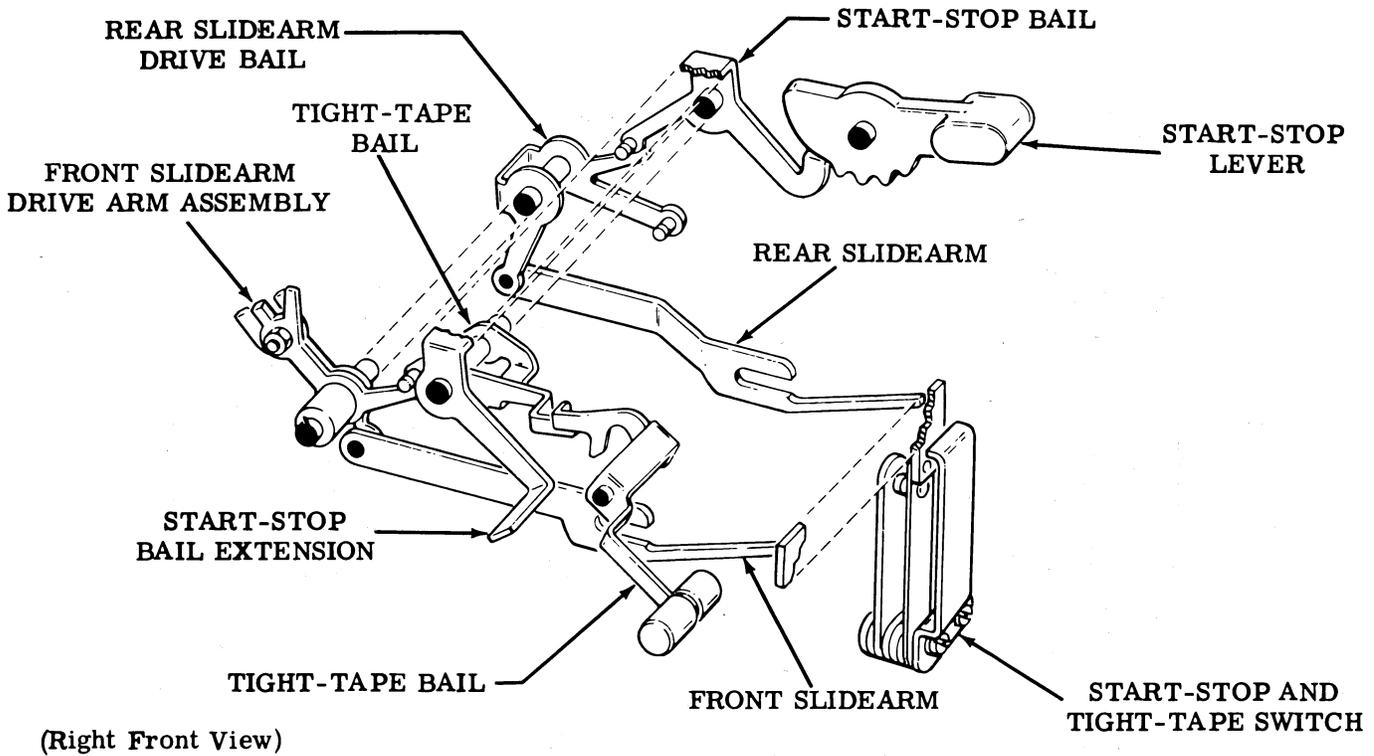
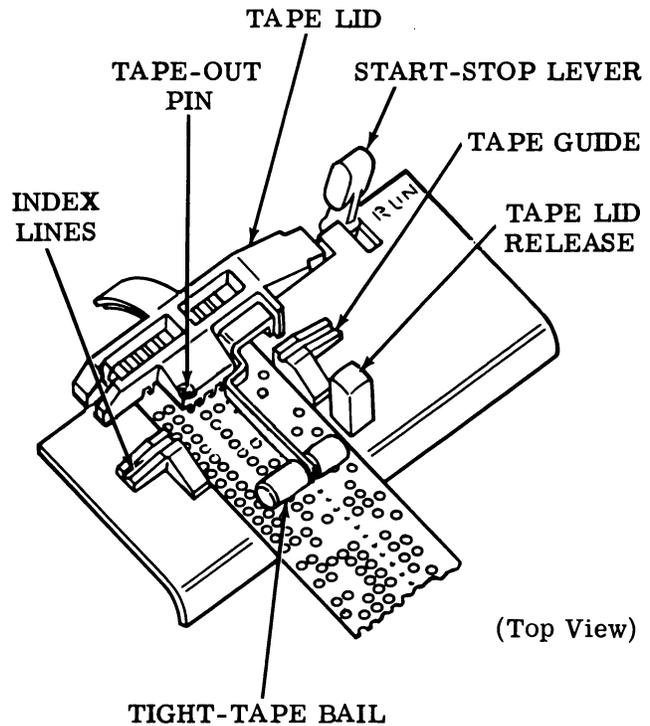
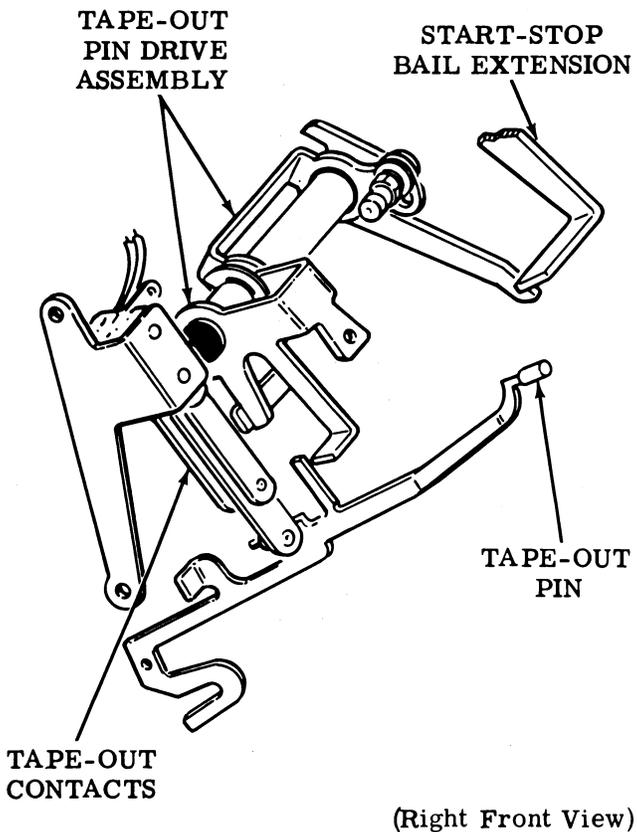

Figure 12 - Start-Stop and Tight-Tape Switch Mechanism
Figure 19 - Tape Guideplate
Figure 18 - Tape-Out Pin and Contacts
6.03 The sensing clutch trip magnet is controlled by the start-stop and tight-tape switch mechanism (Figure 12) and the tape-out pin and contacts (Figure 18), which are in series with the magnet coil.
7.01 With the start-stop lever in the RUN position, the cam surface of the lever causes the start-stop bail to pivot on its axis (Figure 12). The pivoted start-stop bail causes the rear slidearm drive bail to pivot and release the rear slidearm. This permits the start-stop and tight-tape switch to close and energize the sensing clutch trip magnet (Part 6).
11.01 When the unit is loaded with tape, the pressure of the tape causes the tape-out pin (Figure 18) to hold the tape-out contacts closed. These contacts are in series with the sensing clutch trip magnet circuit. If a tape-out condition occurs, pressure on the pin is removed and, through the tape-out pin drive assembly, the contacts open the sensing clutch trip magnet circuit, stopping transmission.
11.02 The start-stop and tight-tape switch is in series with the sensing clutch trip magnet circuit. The tight-tape bail (Figure 19) through the front slidearm, actuates the start-stop and tight-tape switch (Figure 12) opening the sensing clutch trip magnet circuit and stopping transmission, if the tape in the unit becomes tight.
12.01 When the tape lid release button (Figures 19 and 20) is pressed, the plunger portion of the button presses against the tape lid plunger bail extension causing the bail to pivot. The bail, in pivoting, moves its latching extension from under the tape lid latching post to swing downward under action of its spring. Since the latching post is mounted on the tape lid behind the pivot point and below